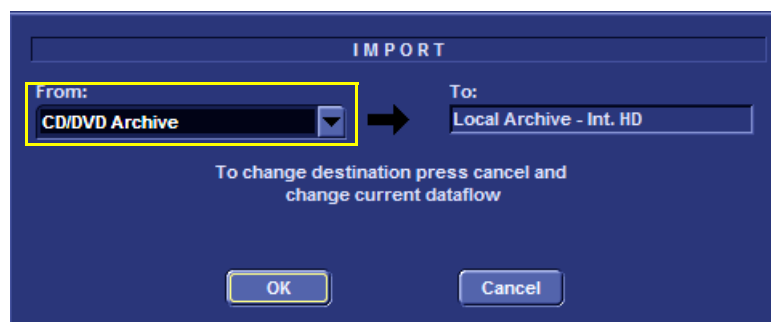

Figure 8-147 Import Screen
NOTE: A warning is displayed (Figure 8-147) - to indicate that only the database is imported to the target device.
The Import screen appears - see Figure 8-147.
- 6.) Under "From" in the Import screen, select the required media source from the drop-down list (see Figure 8-147).